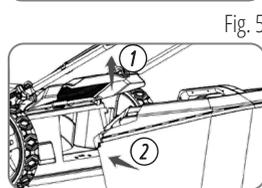

Fig. 5
GRASS BAG INSTALLATION AND REMOVAL (Fig. 5)
3. Release the rear discharge cover and secure the grass catcher in position (Fig. 5).